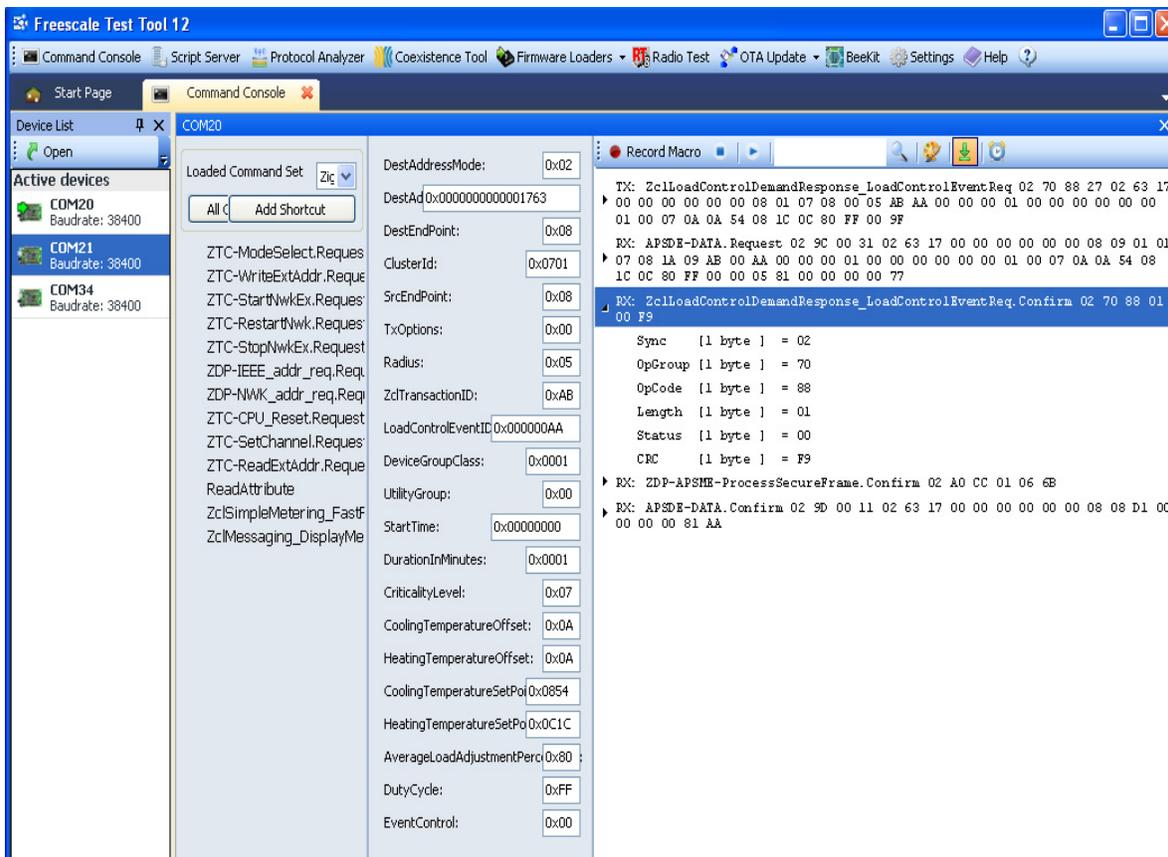

Figure 6-19. Load Control Event Request (Step 9)
14. From Test Tool, send a “Load Control Event request” with the field values as shown in Figure 6-19.